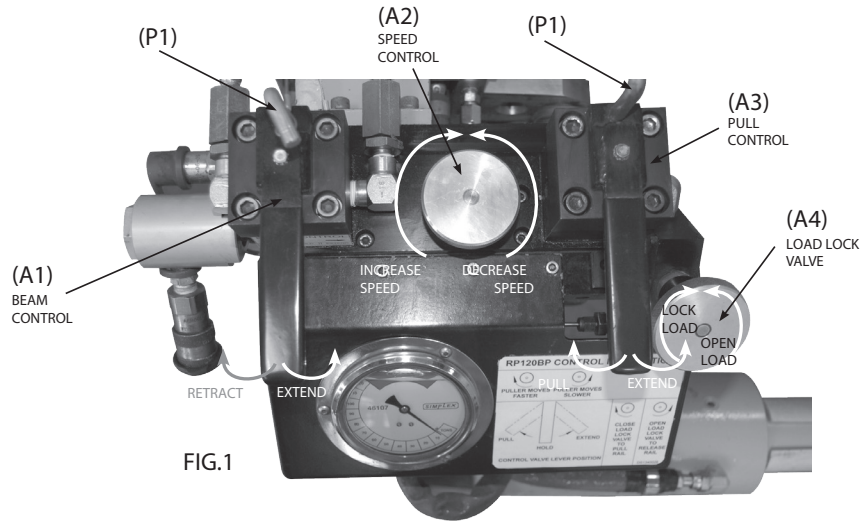

FIG. 1
1. Shift the beam control valve **{(A1) IN FIGURE 1}** to the extend position.
2. Turn the speed control valve **{(A2) IN FIGURE 1}** clockwise until the beam extends to close and set the swing arms.